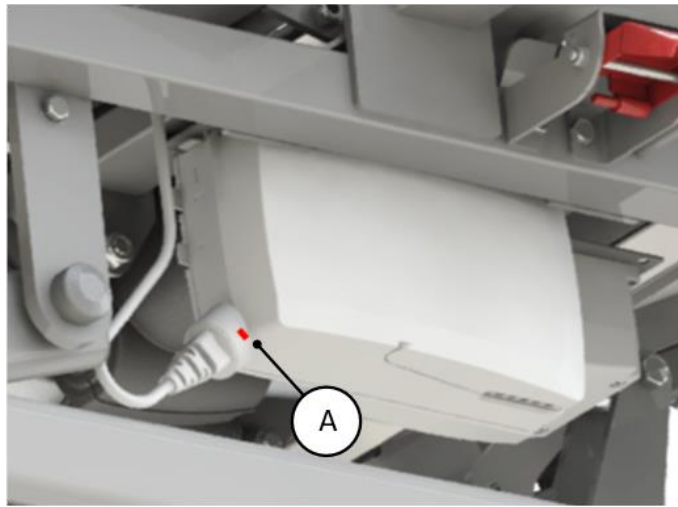

Figure 15: Control Box Power Cable
- c) Insert a small flat screwdriver into slot (A) on the outside of the control box mains inlet socket to release the red coloured cable retaining clip as shown on figure 15. Whilst pushing down on the tab, pull out the cable (7) from the control box socket.